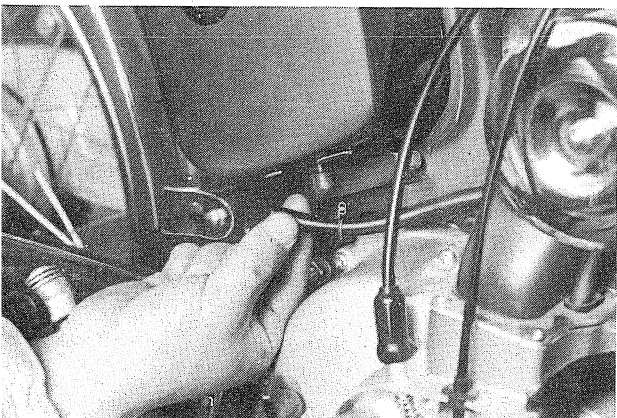

Fig. 3-1-14
1. Disconnect the oil pipe. (Plug the line to prevent oil from flowing out of the pipe.) (Fig. 3-1-14)